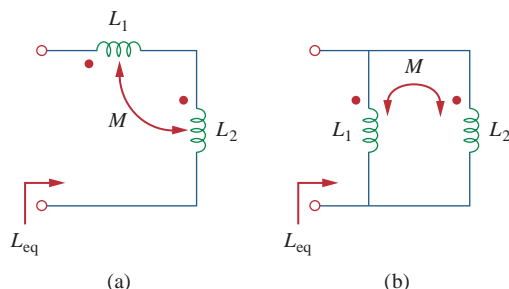

Figure 13.74
- 13.4** (a) For the coupled coils in Fig. 13.74(a), show that
- (b) For the coupled coils in Fig. 13.74(b), show that